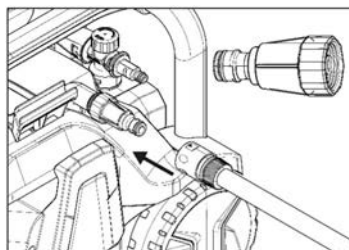

Fig.5
- Connect the garden hose adaptor (female coupler) to the water inlet of the pressure washer, then thread your garden hose (male end) into the garden hose adaptor (Fig.5)